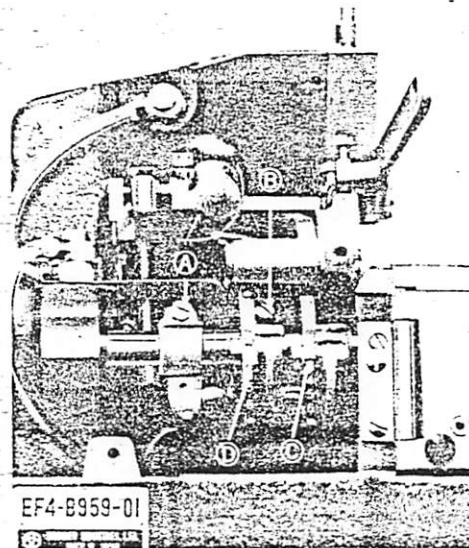
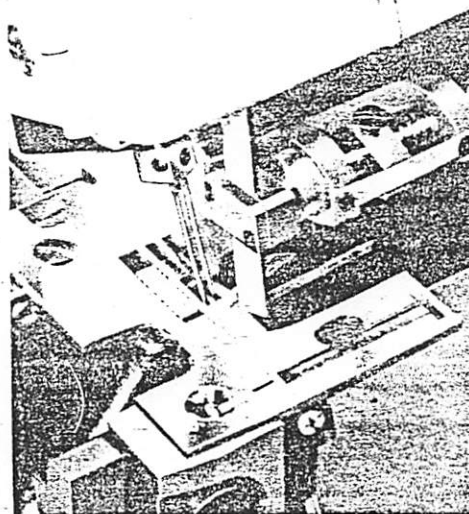
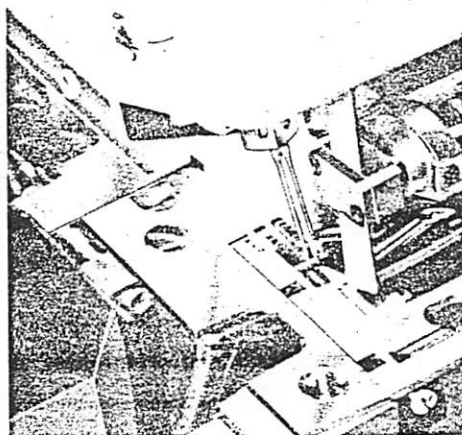

Fig. 38
Fig. 39
Fig. 40
First, loosen the feed lever set screw (A) (Fig. 38) and the main feed lever set screw (B) (Fig. 38); and increase the feed pitch to maximum.
Turn the pulley by hand in the normal operating direction until the feed dogs come closest to your side. With the feed dogs in that position, move the sub feed lever (C) (Fig. 38) forward or back so that there is a clearance of 0.5mm between the sub feed dog and the closer end of the needle plate's feed dog slot. (Fig. 39) Then, tighten the feed lever set screw (A) (Fig. 38) securely. Turn the pulley further in the normal operating direction until the feed dogs are farthest from your side. With the feed dogs in that position, move the main feed lever (D) (Fig. 38) forward or back so that there
is a clearance of 0.5mm between the main feed dog and the farther end of the needle plate's feed dog slot. (Fig. 40) Then, tighten the main feed lever set screw (B) (Fig. 38) securely.